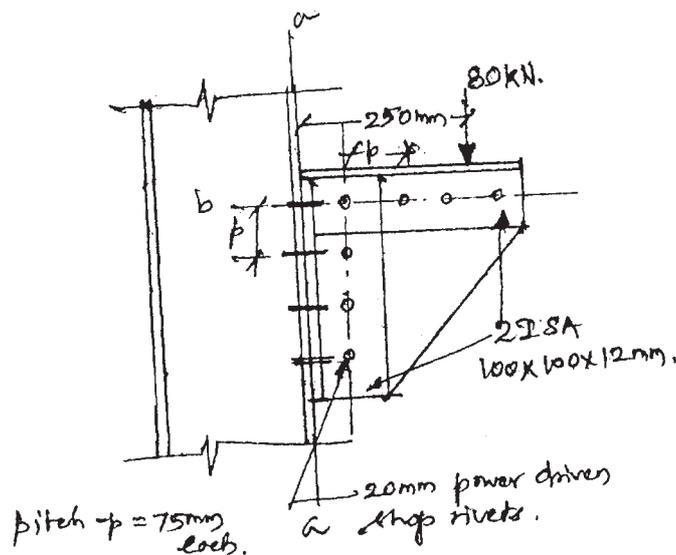

Figure 2
- (b) A riveted bracket connection is shown in Figure 2. Check the adequacy of the fasteners provided.